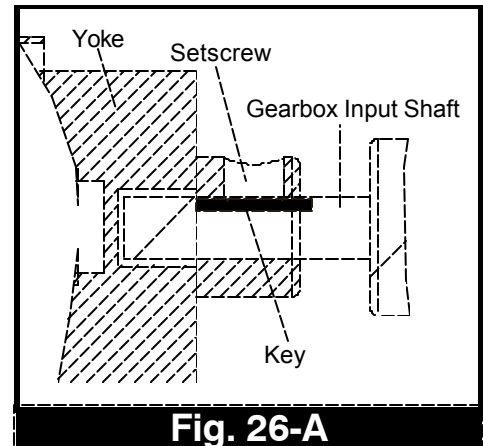

Fig. 26-A
2. Remove four (4) 3/8" x 1" grade 5 hex head capscrews that connect the mounting ear to the drive housing.
3. Place input shield over PTO driveline and fasten to drive housing using four (4) 1/2" x 1" (grade 5) hex head capscrews and nylon lockwashers. (See Fig. 26)
4. Place the PTO driveline support 51" up the auger housing from the center of the gearbox and attach it to the auger using a half-band and two (2) 5/16" x 1-1/2" long (grade 5) hex head capscrews and nylon locknuts. Position the PTO driveline support to the auger so that the PTO driveline is parallel with the drive shaft cover.